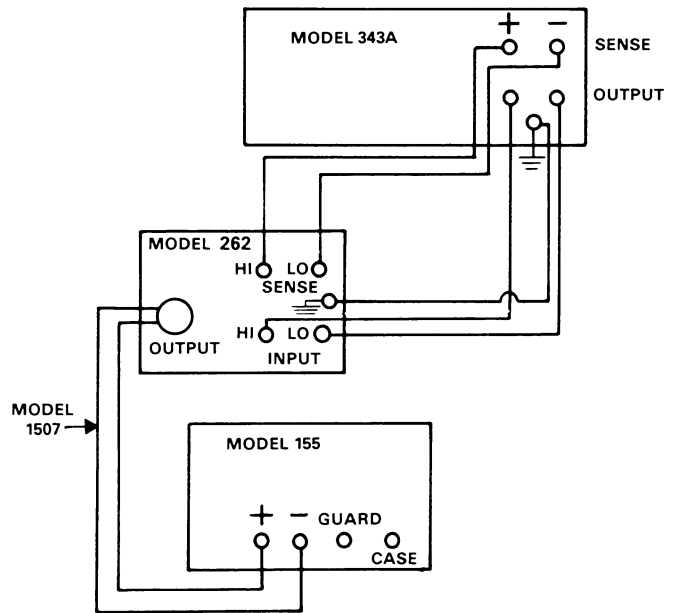

Figure 4-4. Rise Time Test Circuit
1. Set up the test circuit shown in Figure 4-4.